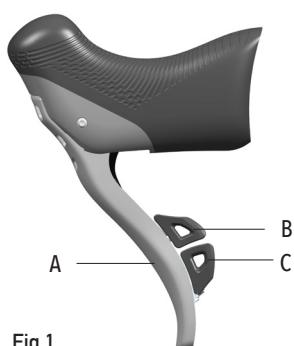

Fig.1
- A - Brake lever (Fig.1)
- B - Upper lever (Fig.1)
- C - Lower lever (Fig.1)
- Moving the lever A (Fig. 1) operates the brake: check which wheel corresponds to which lever by operating each of these one at a time.